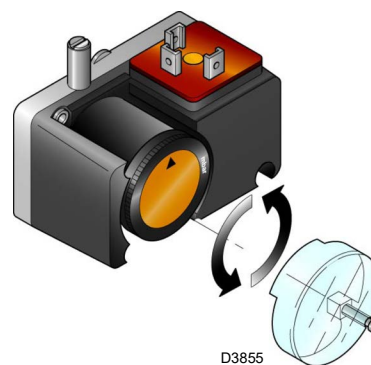

Fig. 32
- Adjust the pressure switch for the valve leak detection control device (PVP Kit) (Fig. 32 at page 34), if present, according to the instructions supplied with the Kit itself.
Adjust the pressure switch for the valve leak detection control device (PVP Kit) (Fig. 32), if present, according to the instructions supplied with the Kit itself.